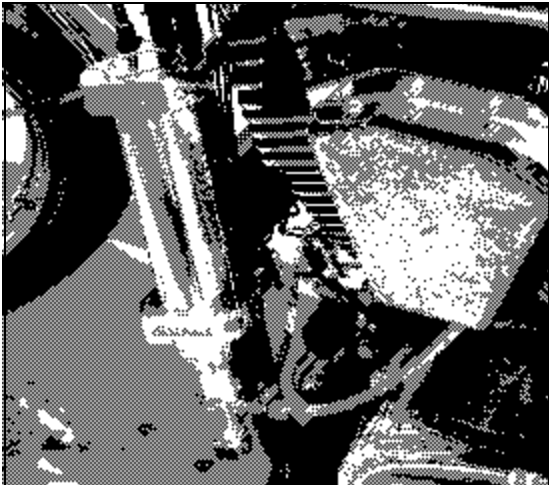

Figure 3
4. Connect Nitrous hose to solenoid and main bottle using tee fitting supplied as seen in figure 3.